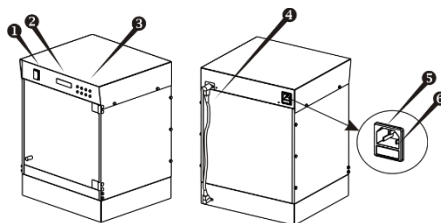

Fig.1. Overall view
- power switch (fig.1/❶);
- display (fig.1/❷);
- control buttons (fig.1/❸).
- shaking block control cable (fig.1/❹);
- socket for connecting the power cord (fig.1/❺);
- fuse holder (fig.1/❻).
- UP-12 platform ❶on request
- PP-4 platform ❷on request
- P-12/100 platform ❸on request
- P-6/250 platform ❹on request
- P-16/88 platform ❺on request
- HB-200 holding bar ❻on request
- Connect the shaker control cable (fig.1/④) into the corresponding sockets on the rear of the thermostatic and shaking blocks.
- Plug the mains cable into the socket on the rear (fig.1/⑤) and position the unit so that there is easy access to the power switch and connector.